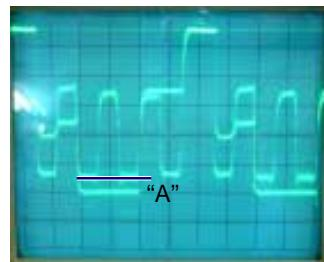

Fig. 2-3
5. Press the VOL. UP/DOWN button on the remote control until the section "A" becomes as straight line. (**Refer to Fig. 2-3**)